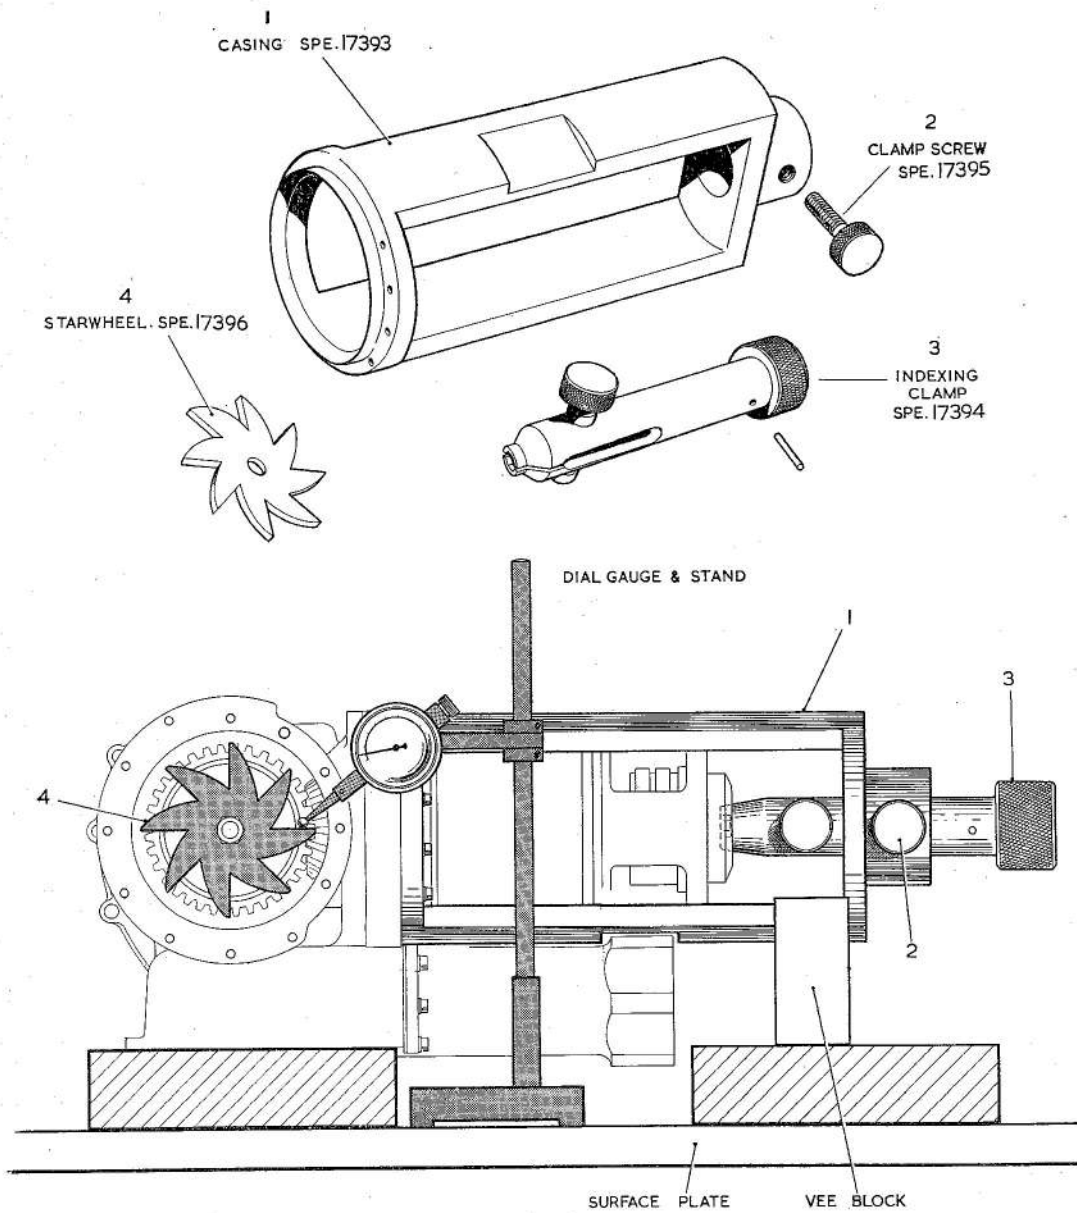

Fig. 13. Backlash checking tools
(1) Remove the pump shaft disc and fit an excessive thickness of shim (6), the bevel gear key (2) and the paired gear (5). Place the special starwheel SPE.17396 (fig. 13) on top of the gear and align it so that one arm is between the markings X-X which will be found engraved on top adjacent gear teeth. Secure the starwheel with a  $\frac{1}{4}$  in. B.S.F. nut.
(2) Lubricate the motor unit seal ring (13) with a smear of Silicon compound XG-250 (Ref. No. 33C/9424829). Ease the completed motor assembly into the pump casting, threading the motor unit
*Gear alignment (fig. 13)*
38. (1) Fit the casing SPE.17393 over the motor unit and secure it to the pump casting in six positions. Clamp the motor spindle end nut in the indexing clamp SPE.17394. If un-paired gears are being fitted, set the gears so that one arm of the starwheel is in line with the motor centre line and secure the indexing clamp. Mark the meshing gear and pinion teeth so that the starting point for the backlash check can be easily determined.